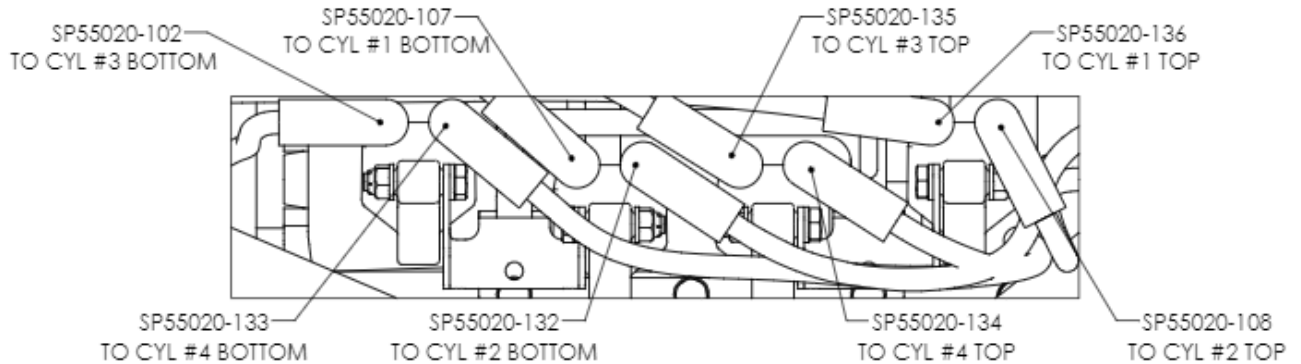

FIGURE 4 – SPARK PLUG WIRE IDENTIFICATION
12. If ignition wires and spark plug wires were removed per Step 3, install new ignition wires. Part numbers are provided in the parts list. Install spark plug wires per Figure 4. If ignition and spark plug wires were not removed, proceed to Step 13.
16. Perform an engine-run on the ground, checking for correct ignition operation per POH/AFM “Before Takeoff” procedures. If problems are found, verify connections per Figures 4 / 5 and re-check operation.